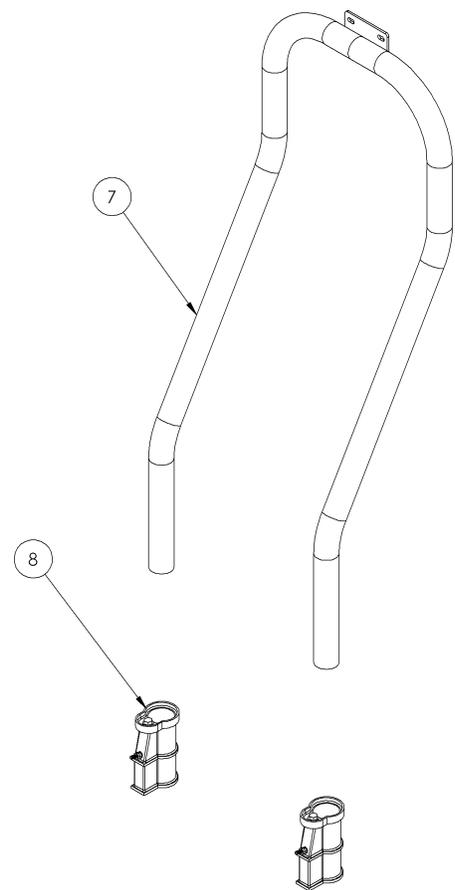

Fig. 5
1. Insert the vertical post (7) into the installed anchors (8), as shown in **FIGURE 5**. To make assembly easier, the basketball game can be assembled facing away from the pool and will be turned around once assembly is complete. (For anchor installation information see 06-252, which is provided with the anchors)